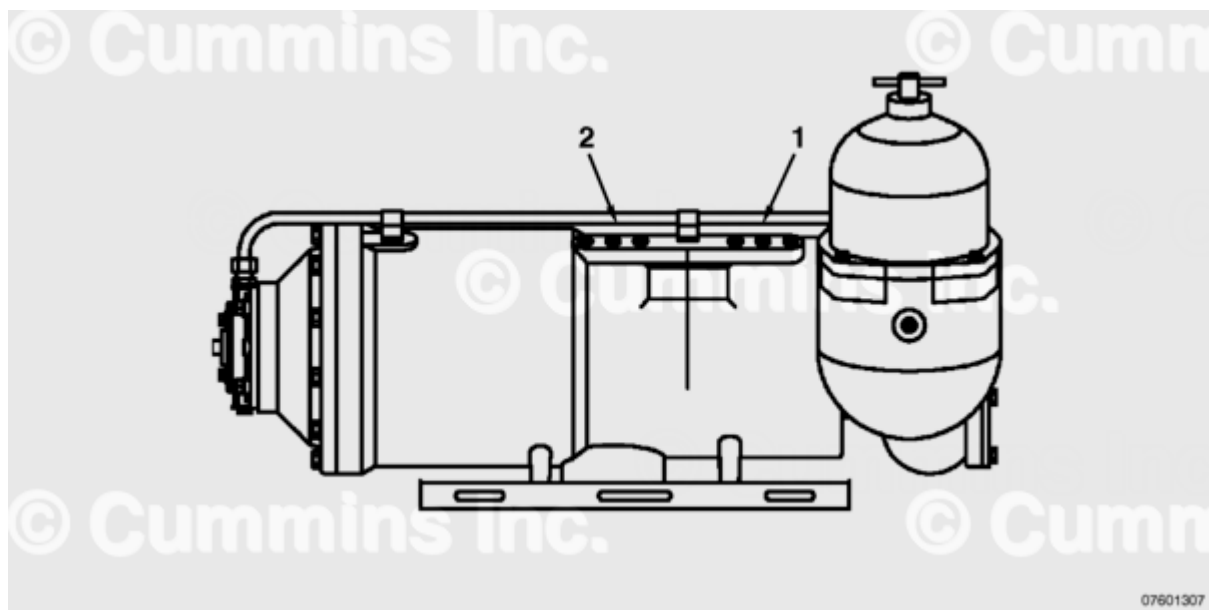

Figure 3
Check the pressure drop and mark this value - Base Line Pressure Drop from 1 to 2 in figure 3.
- The pressure drop has **not** increased by more than 2.9 psi above the Base Line Pressure Drop recorded at start up. For example, if Baseline Pressure Drop is 4 psi, maximum pressure drop at the same conditions **must not** exceed 6.9 psi. (Figure 3)